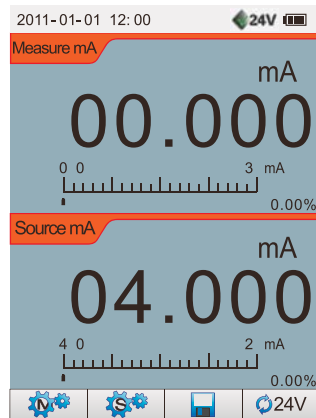

Figure 9.1 Main interface
1. Main interface: press  to start up and go into the main interface (Figure 9.1). At the top of screen is measure and below is source.